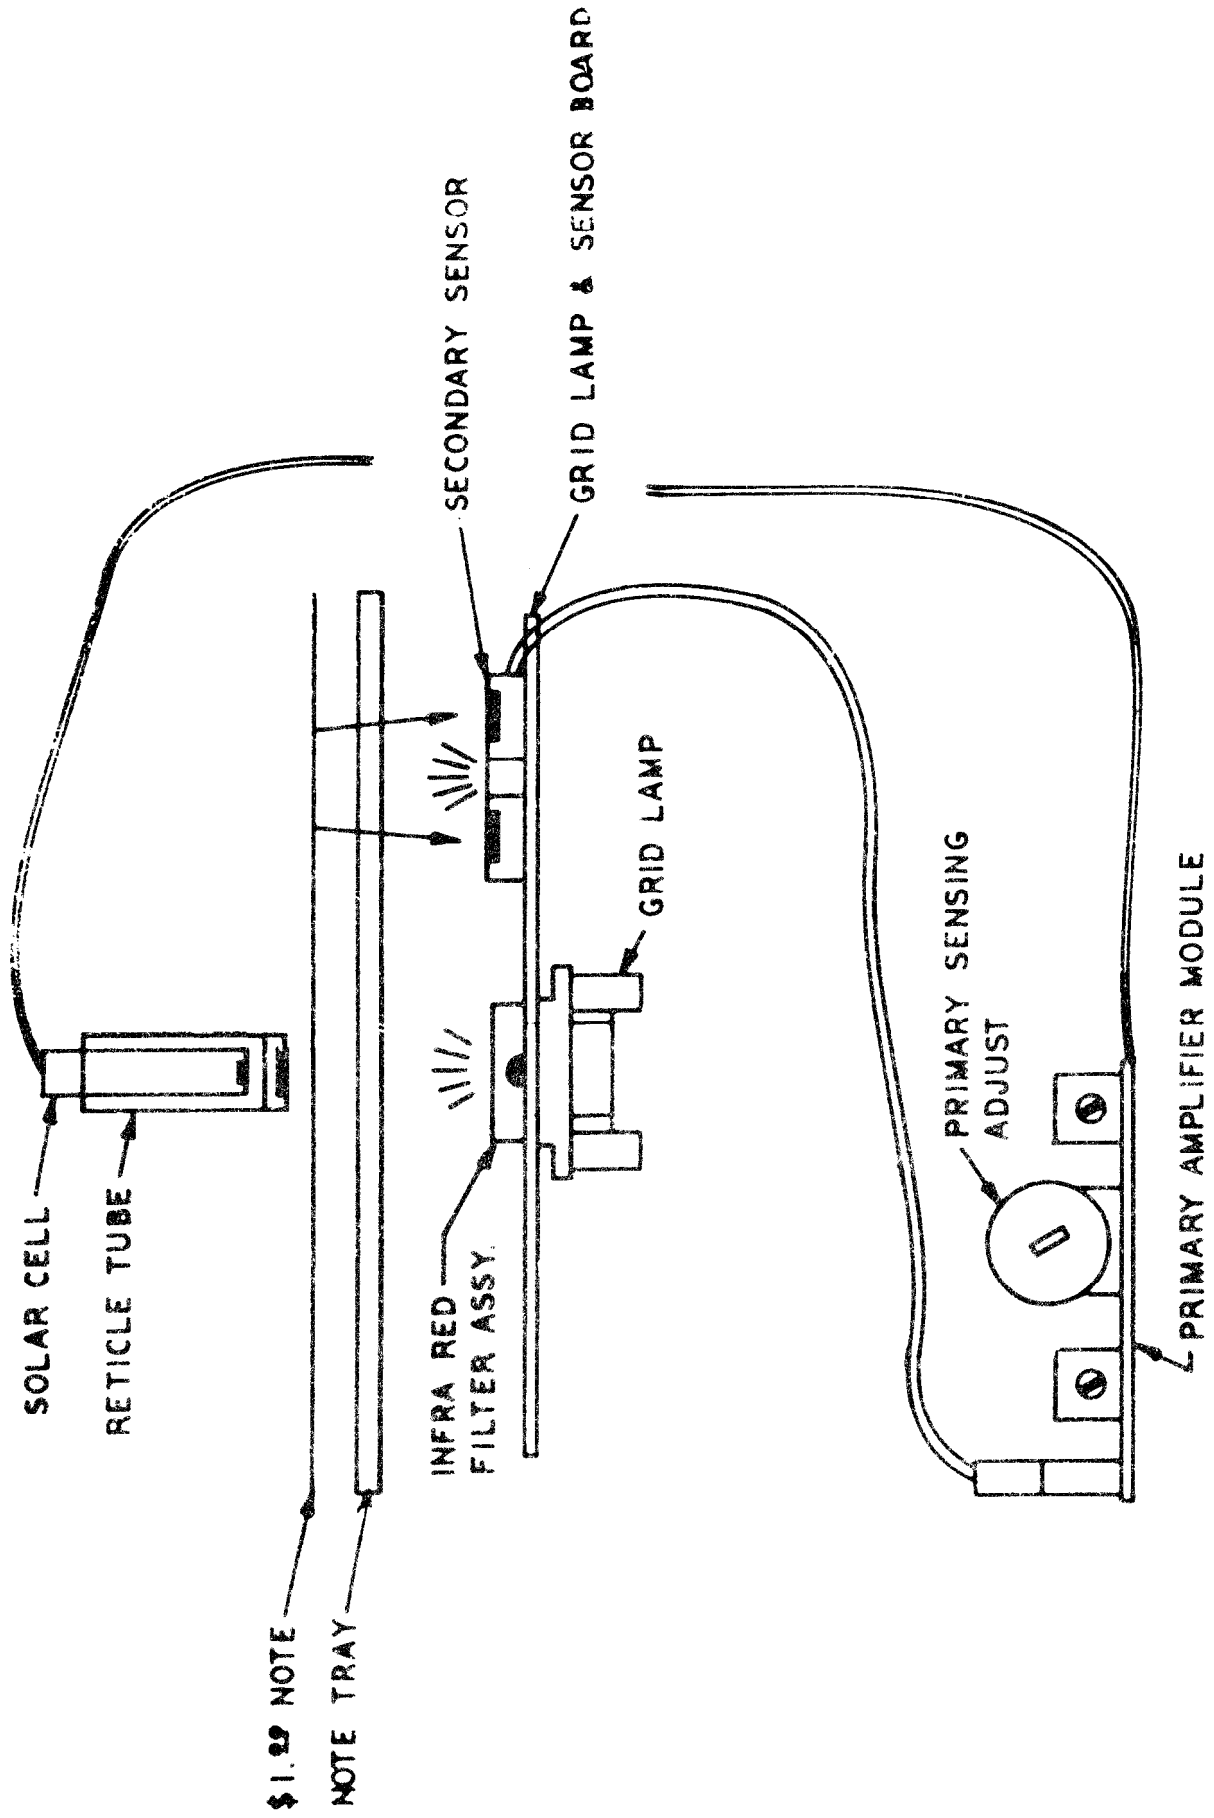

Figure 2
Using a soft cloth or pipe cleaner, carefully clean any dirt, grime or smoke that has accumulated on the tray insert and the housing of the secondary sensor (Figure 2). Using a soft brush, carefully remove any dirt or dust that has accumulated in the infra-red filter assembly over the grid lamp. Make sure smoke is cleaned from the top and bottom of the tray insert.
1. Primary Detection. This system scans the top side of a note. It examines the grid pattern engraved around the portrait area to determine the correct pattern and characteristics of the ink. It consists of a reticle tube and solar cell on top of the tray insert, and a grid lamp and infra-red filter assembly under the tray. These items are shown in Figure 2.
2. Secondary Detection. This system looks at the back of a note. It is a self-contained reflective sensor. It is also shown in Figure 2.
Sensing module loose.	Make sure amplifier module (Figure 2) is inserted properly and making good contact.
Defective grid lamp.	Remove top plate of acceptor. Lift tray clear switch. If a red light does not appear under the infra-red filter (Figure 2), replace grid lamp.
Broken wire to solar cell.	Check wires (Figure 2) and replace solar cell if wires are broken.